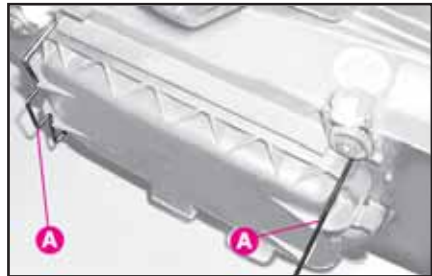

fig. 13
1) Remove the spring **fig. 13-A** and remove the plastic protective cover,
1) Release the spring **fig. 13-A** and remove the plastic protective cover.